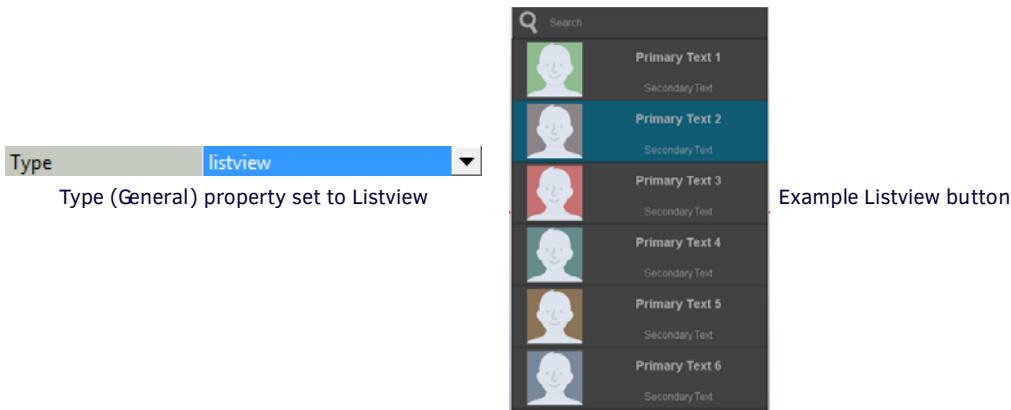

FIG. 156 Type (General) Property set to Listview
- With the new button selected, click the **Type** (General) property and select **Listview** from the drop-down of button types. This selection sets the new button as a Listview button, and enables a set of Listview-specific properties (FIG. 156):